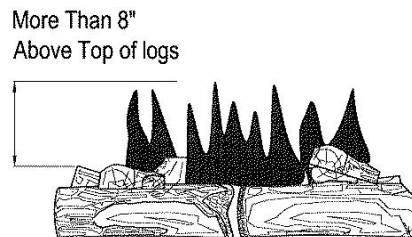

Figure 18 - Incorrect Flame Pattern with Control Knob Set to High (5)
- Figure 18 shows an incorrect burner flame pattern. If burner flame is incorrect: Turn heater off (see To Turn Off Gas to Appliance, page 16) see Troubleshooting, Page 19~21.